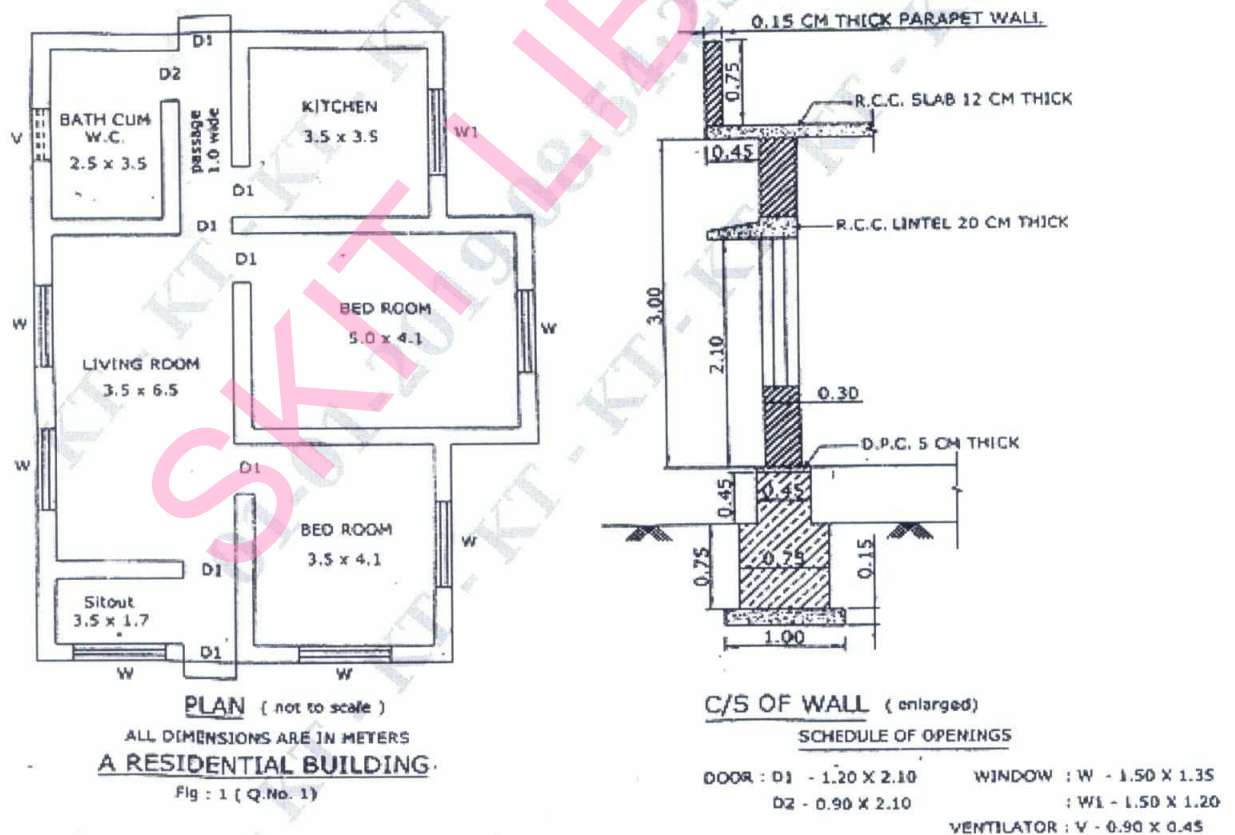

Fig.Q1
- 1 Prepare a detailed estimate residential building in Fig.Q1(Refer page no.2) for the following items of work. Prepare on abstract of estimated cost.